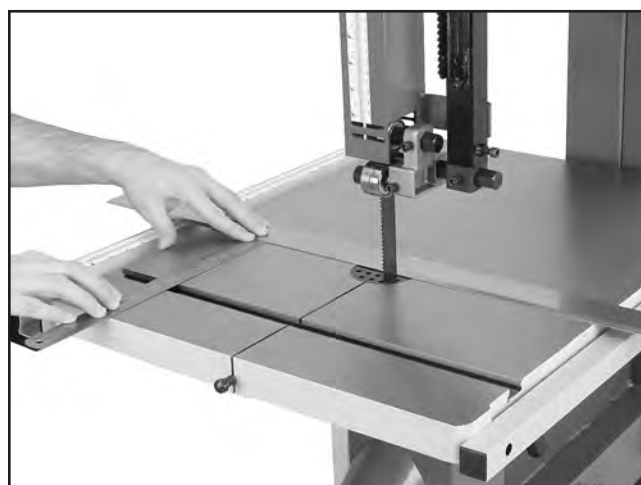

Figure 32. Example of measuring for miter slot to be parallel with blade.
5. Use a fine ruler to accurately gauge distance between straightedge and miter slot. The distance you measure should be the same at front and the back of table (see **Figure 32**).